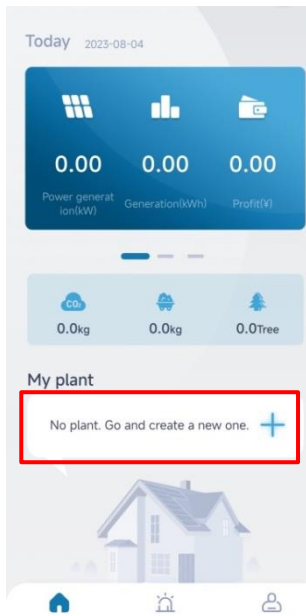

Figure4-2 Main page
Step 4 After entering the main page, it will show the prompting "No plant. Go and create a new one" to build a new plant, as shown in Figure4-2.